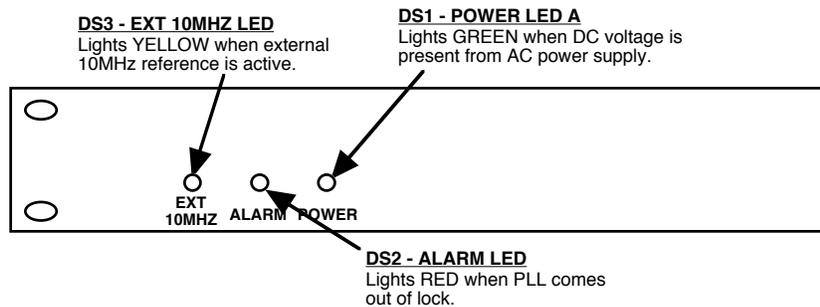

FIGURE 2.2 2116-35 Front Panel Controls and Indicators
- 4.) Be sure DS1 (green, DC Power) is on and DS2 (red, Alarm) is off (Figure 2.2).
- 6.) If EXT is selected or AUTO is selected and there is a 10MHz, 0 dBm signal at J2, check that DS3 (yellow, Ext 10MHZ) is on (Figure 2.2).